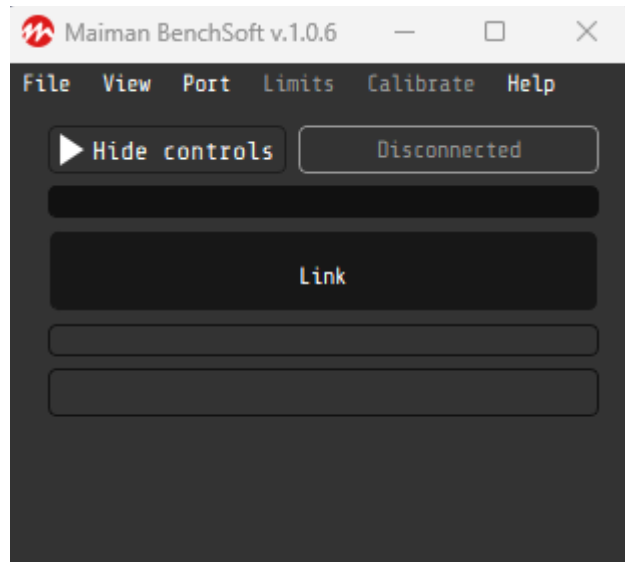

Figure 4. MAIMAN BENCHSOFT software start up window
4. Open the program Maiman BenchSoft. Initial window of the software is shown in Figure 4.